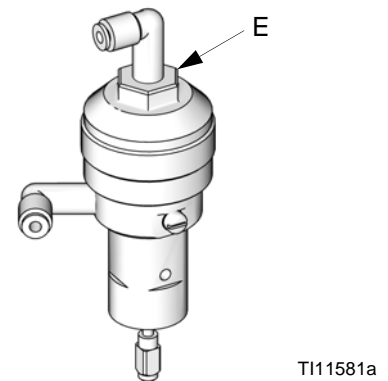

FIG. 21. Valve Adjustment
Dose valves and purge valves are factory set with the hex nut 1-1/4 turns out from fully closed. This setting limits maximum fluid flow rate into integrator and minimizes valve response time. To open dose or purge valves (for high viscosity materials), turn hex nut (E) *counterclockwise*. To close dose or purge valves (for low viscosity materials), turn *clockwise*. See FIG. 21.